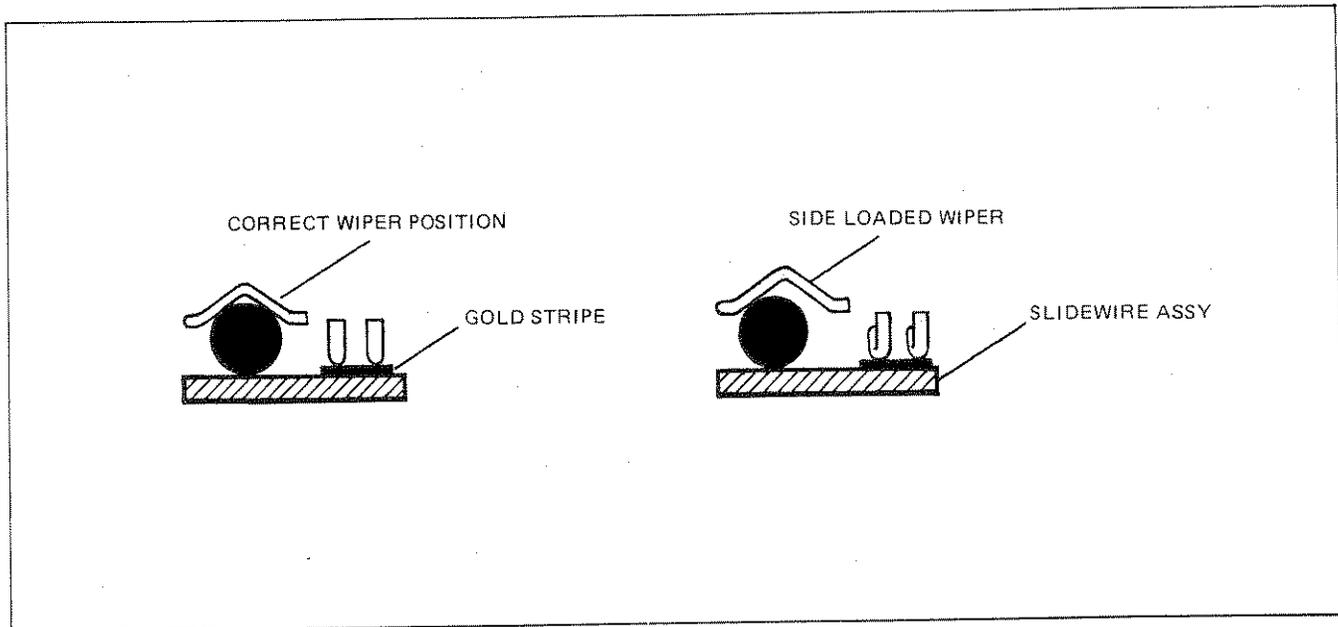

Figure 5-16. Slidewire Wiper Alignment
- b. Check that the wiper is aligned properly on the slidewire so that the double contacts are on the gold stripe of the slidewire, and the V of the single contact is resting on the mandrel. See Figure 5-16. Move the Y-arm along the length of the X-axis slidewire, checking that proper contact is made between the wiper and slidewire along the entire X-axis.
It is important that the single contact is not side loaded. (See Figure 5-16).
- c. Move slider block toward bottom of recording arm, checking to see that wiper contacts are in proper position on the slidewire. Refer to Figure 5-16 for correct position of wiper on slidewire.